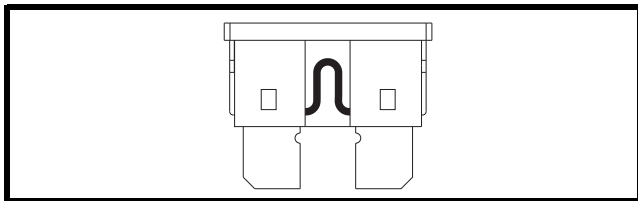

Figure 27. Working Fuse
2. Examine the fuse to be sure it is blown. See figures 27 and 28.